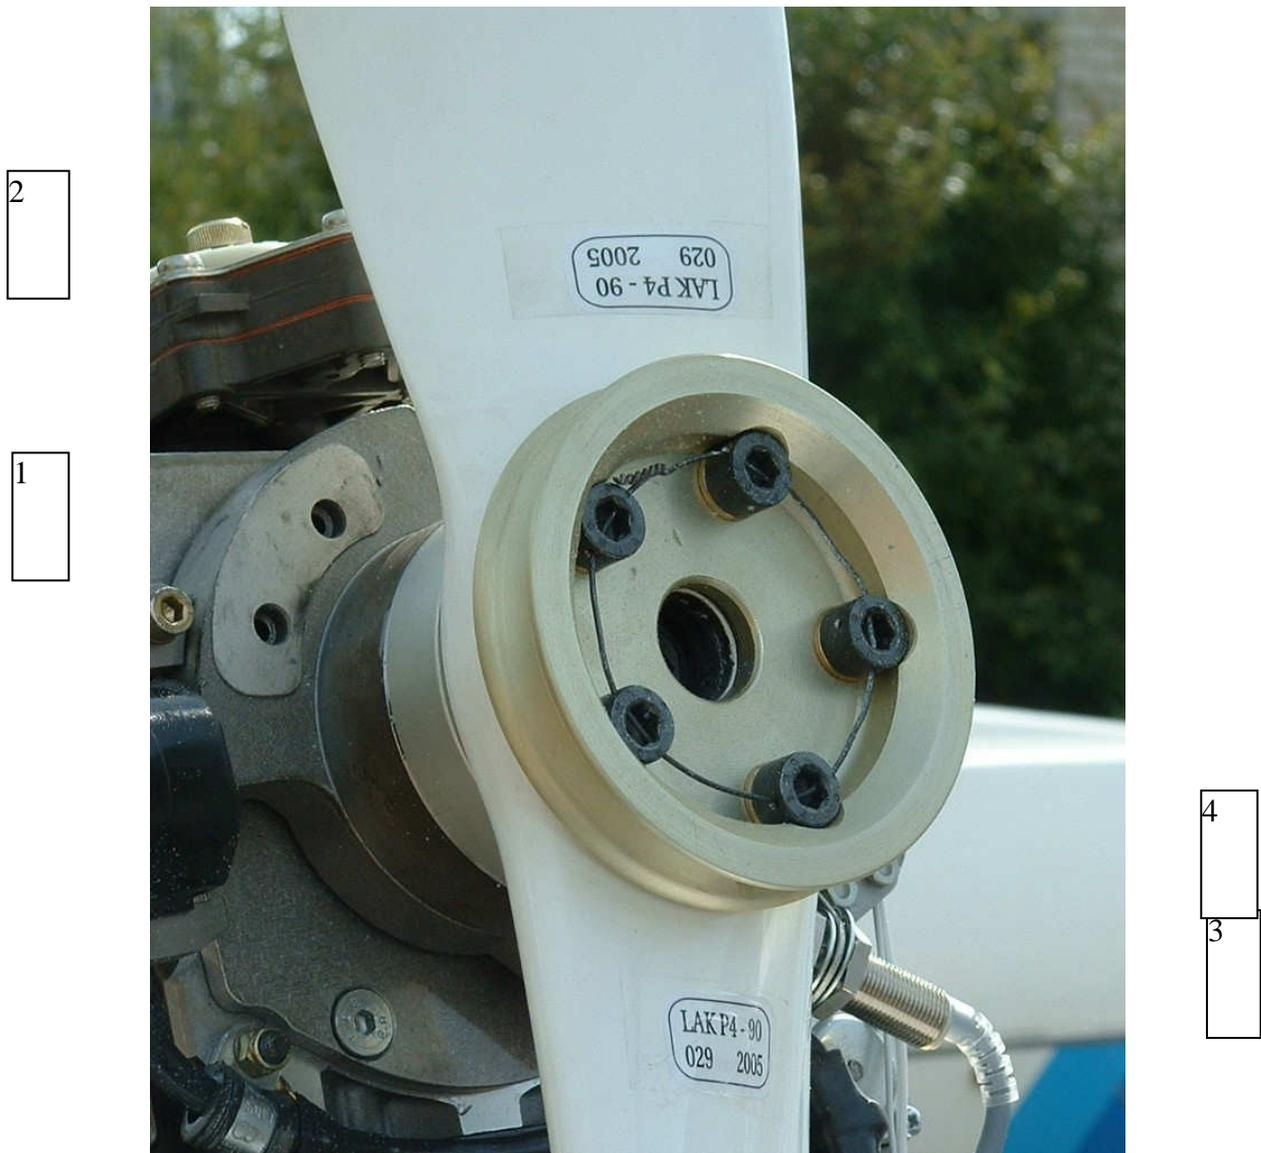

Fig.1 Propeller mounting on the engine flange
4.3 Place parting ring p.1 (see Fig.1), propeller p.2 and front plate p.3 on engine flange. Install propeller bolts p.4. Do not push the propeller to the flange with high force. Cracks may occur. Check the reason of non-fitting if such occurs. If propeller still does not fit, contact manufacture.
4.4 Tighten propeller bolts p.4 (see Fig.1) uniformly and crosswise.